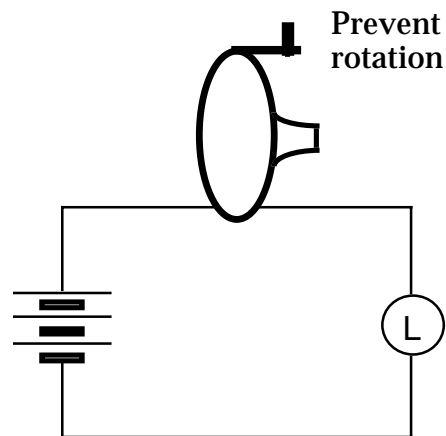

Figure 7.20b
1. Use your hand to prevent the Genecon crank from turning, as in Figure 7.20b. What happens to the bulb brightness when you hold the crank still?